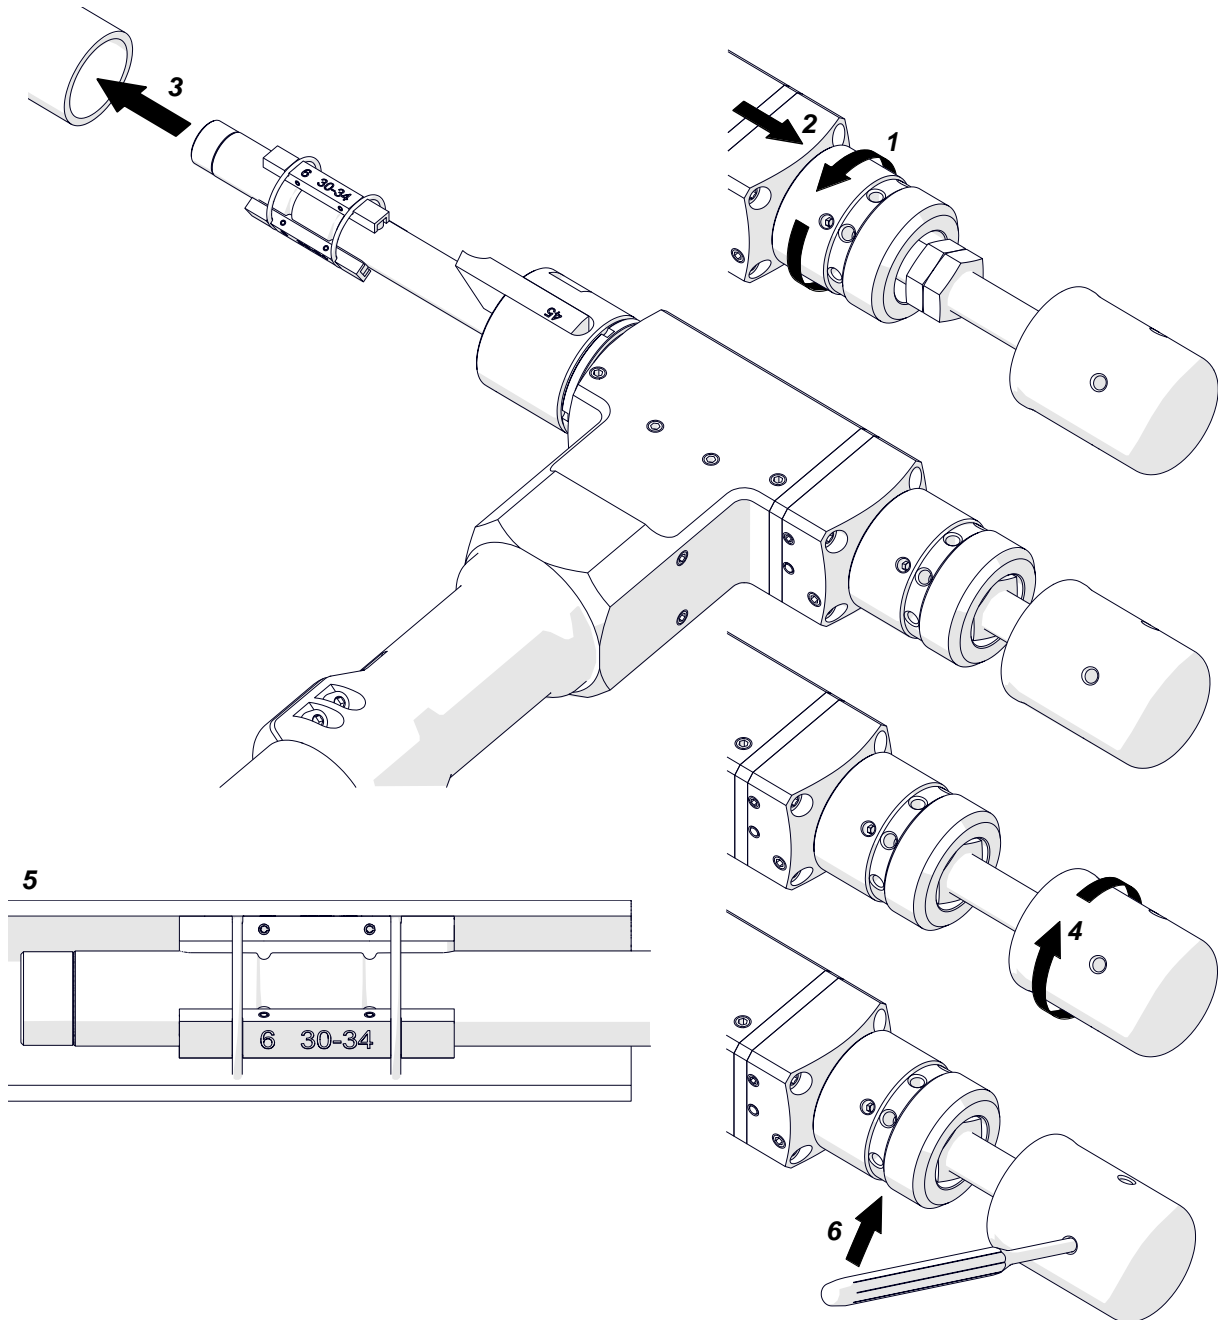

Fig. 6. Clamping the machine into the pipe
Rotate the feed knob (1, Fig. 6) to retract the machine to the required start point of the feed (2). Put the machine into the pipe (3) to set the tool bits at least 3 mm (0.12") from the pipe end. Next, rotate the clamping knob (4) to expand the jaw blocks and clamp the machine into the pipe (5).